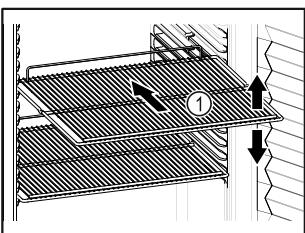

Fig. 57
- If there are adjustable shelves Fig. 57 (1), position them as required.